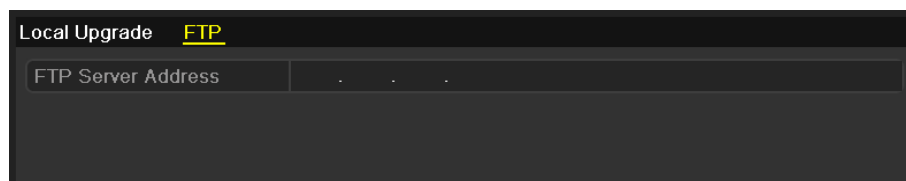

Figure 12. 9 FTP Upgrade Interface
2. Click the **FTP** tab to enter the local upgrade interface, as shown in Figure 12. 9.